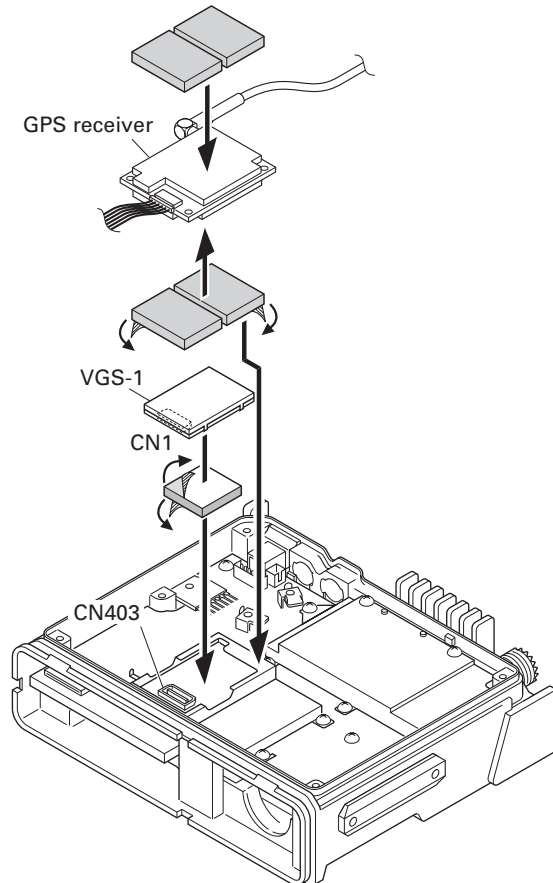

Fig. 8-5
3. Attach a cushion to the bottom of the VGS-1 as shown in Figure 8-5.